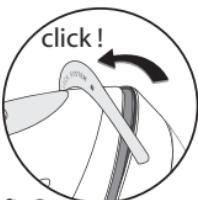

fig.2
- Locking – **fig.2**
- Place the iron on the iron rest of the generator and raise the retaining hoop over the iron until it locks into place (audible click) – **fig.2**.